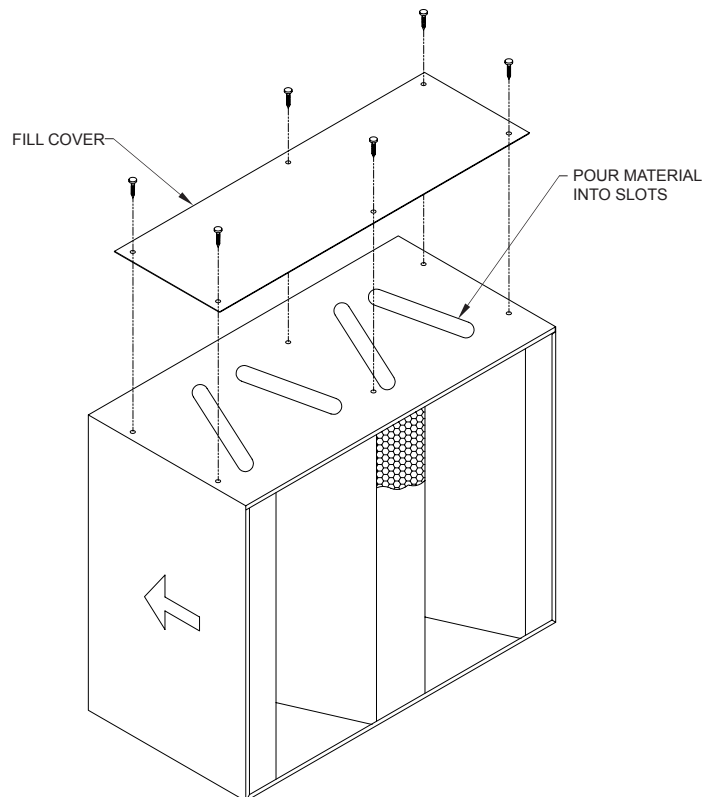

FIG. 6
2. set module on level surface. Remove fill cover by removing six 10-32 phillip head screws, that secure cover. Set cover aside (See **FIG. 6**).